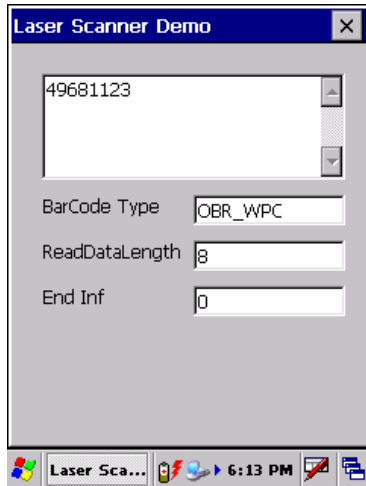

Fig. 4.91
- Displaying scanning result in the screen (see Fig. 4.91).